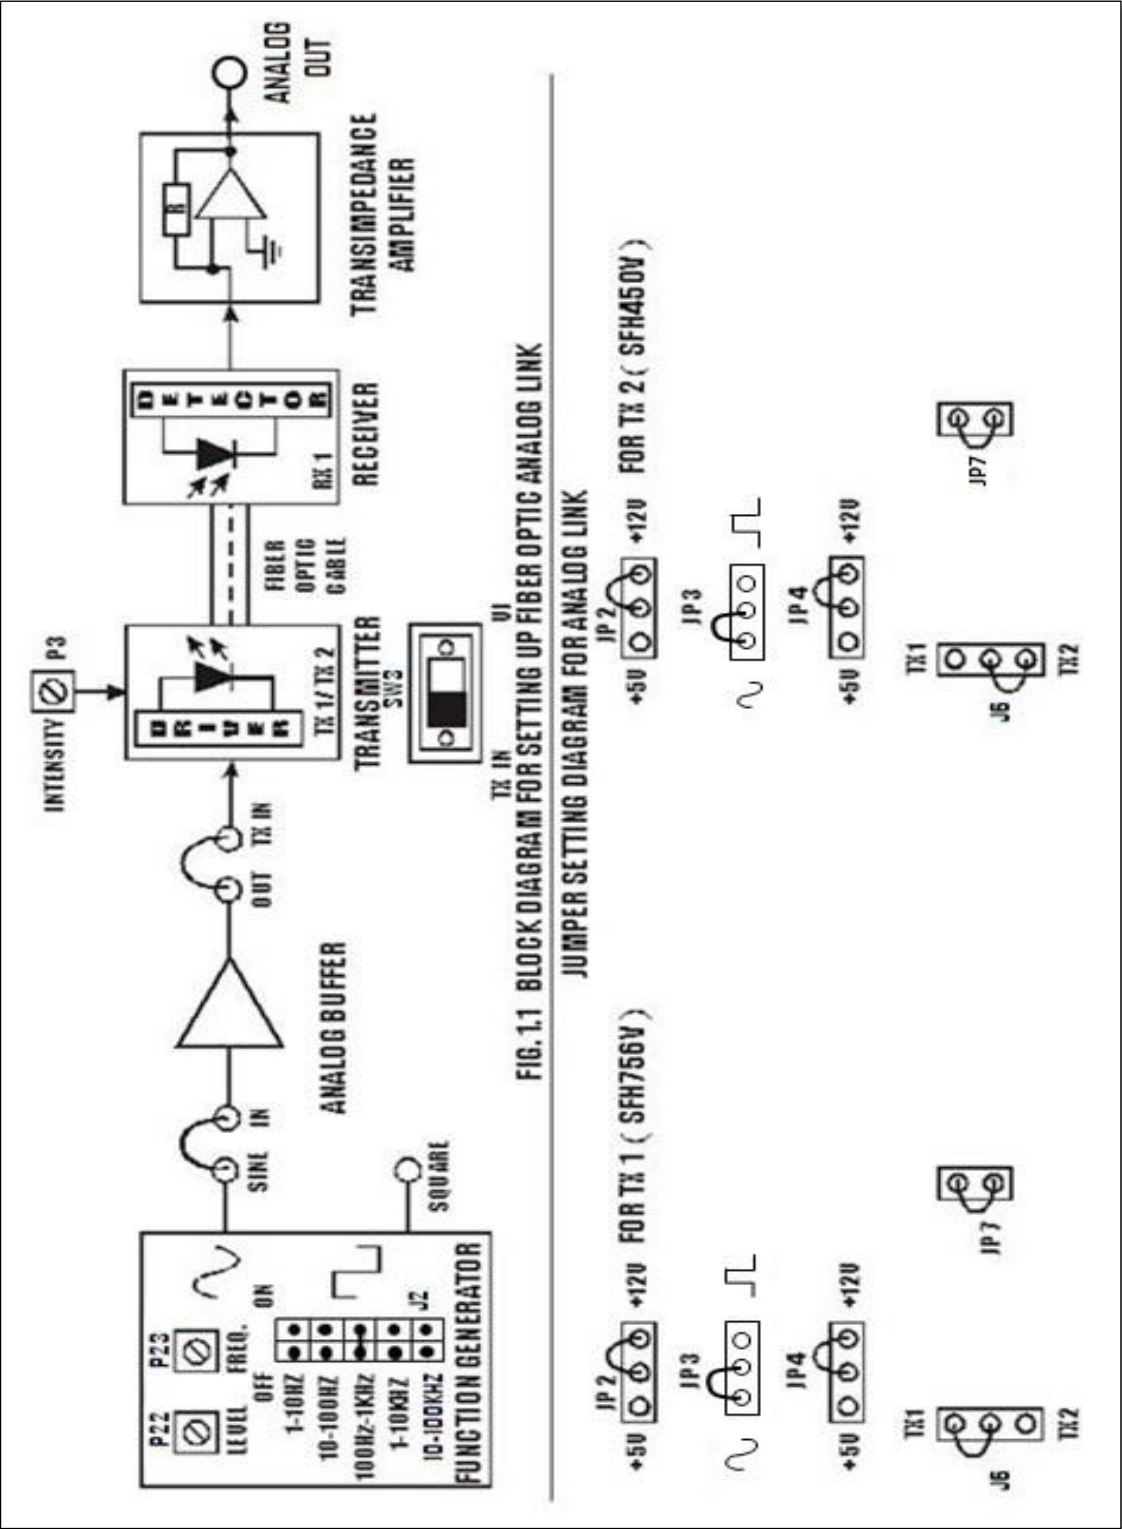

FIG. 1.1 BLOCK DIAGRAM FOR SETTING UP FIBER OPTIC ANALOG LINK
- Make the connections and Jumper settings as shown in **FIG. 1.1**. Connect the power supply cables with proper polarity to kit. While connecting this, ensure that the power supply is OFF.